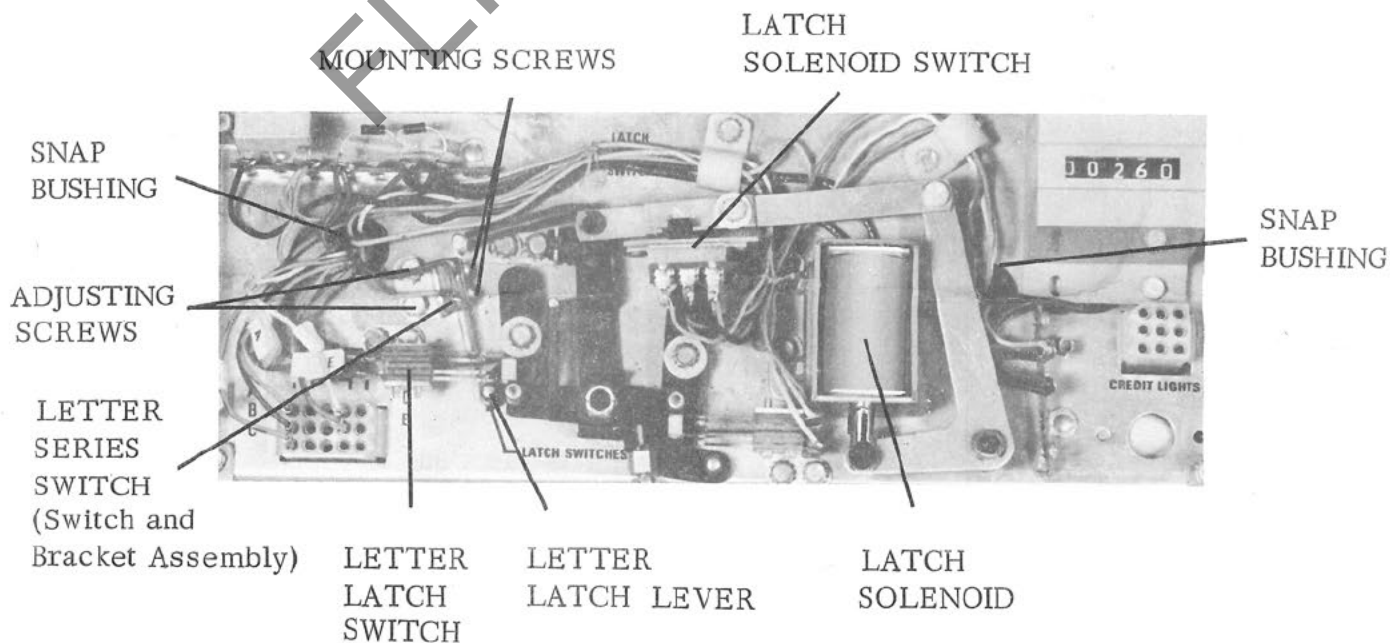

Figure 3
1. Install Switch and Bracket Assembly, Part No. 66007, on mounting plate of Selector Switch Assembly, with two Screws, Part No. 76902-34, as shown in Figure 3. DO NOT tighten Screws at this time.